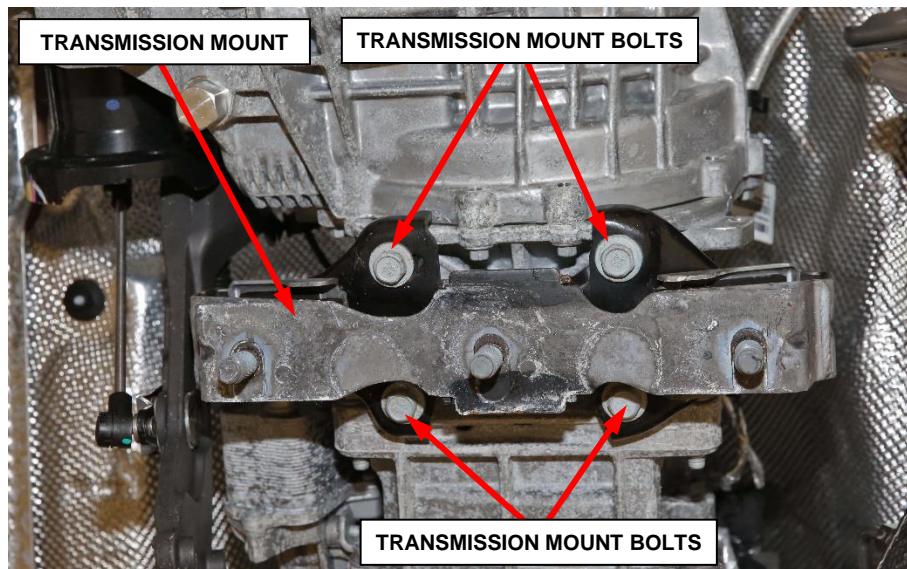

Figure 17 – Transmission Mount
20. Remove the four bolts securing the transmission mount then remove the mount (Figure 17).